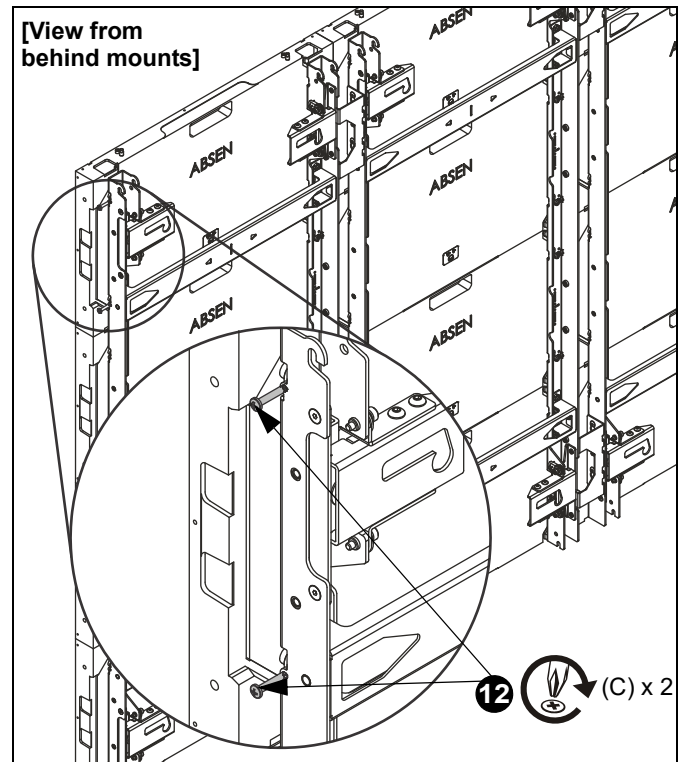

Figure 27
11. Install two 10-24 x 1" Phillips head self-tapping (C) right stop screws into the right side of each cabinet after the cabinets have been connected together.
12. Tighten right stop screws until contact is made with the mounting button on the cabinet. (See Figure 27)